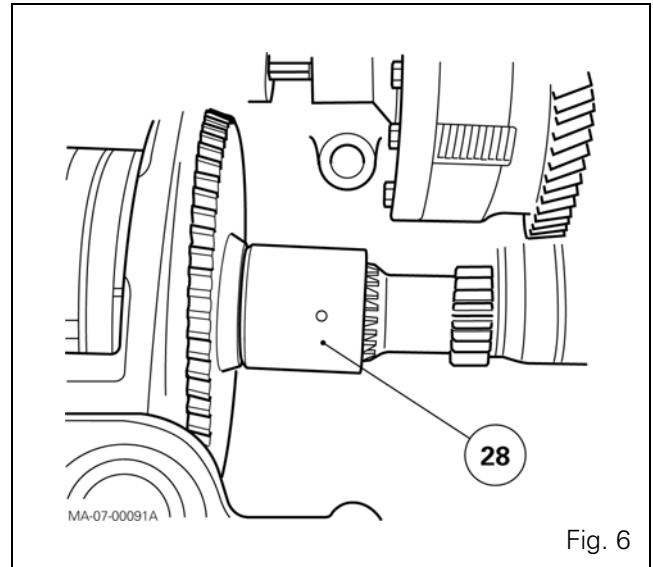

Fig. 6
39. Refit the pinion (31).
40. Refit the circlip (30).
41. Refit the fork, the sleeve assembly (28) (the long offset between the pin and the pinion positioned as shown in Fig. 6), the link shaft and the coupler. Replace the pins. Adjust the fork (see chapter 5).